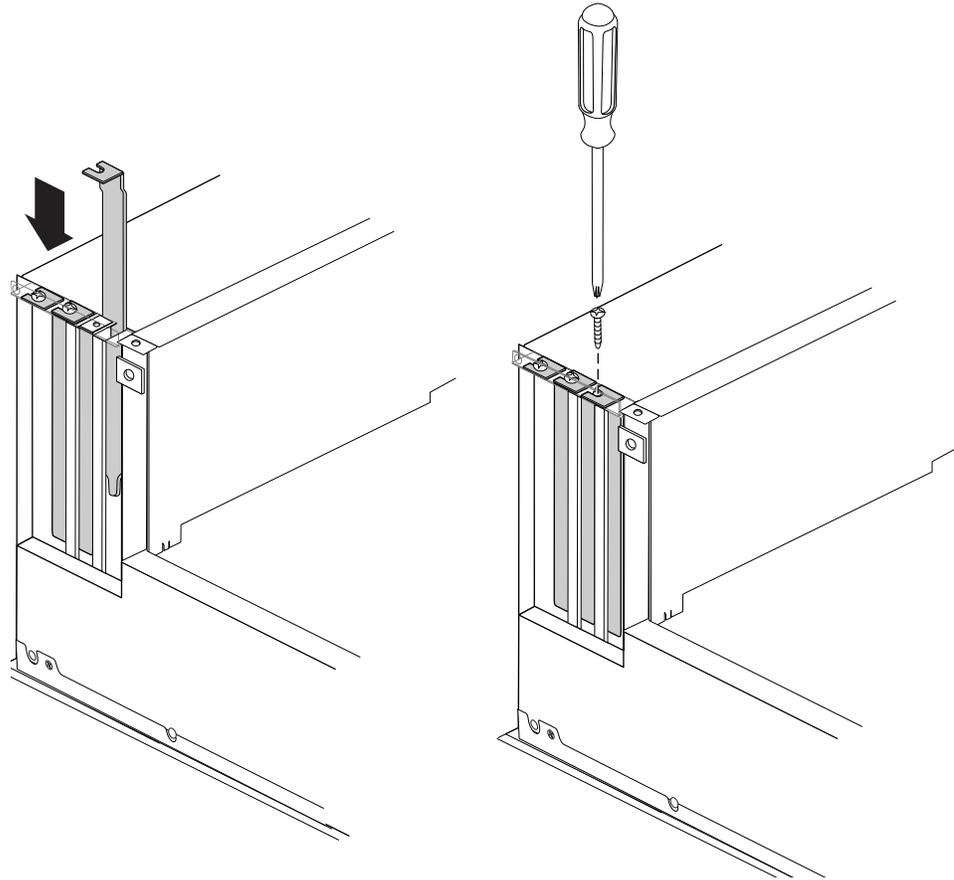

Figure 6-7 Replacing a PCI Option Blanking Plate and Screw
- Align the blanking plate and slide it in place, as shown in Figure 6-7.
- Attach the screw that secures the blanking plate to the Origin200 chassis, as shown in Figure 6-7.